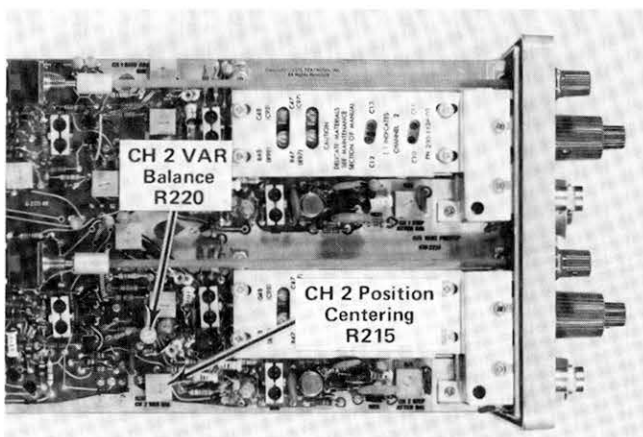

Fig. 5-13. Location of CH 2 Variable Balance and Position Centering adjustments.
c. ADJUST—CH 2 Variable Balance adjustment, R220, (see Fig. 5-13) for minimum trace shift when rotating the CH 2 VAR control through its range.
e. ADJUST—CH 2 Position Centering adjustment, R215, (see Fig. 5-13) so that the top of the CRT display can be positioned down to 1/2-division above the center horizontal graticule line, and the bottom of the display can be positioned up to 1/2-division below the center horizontal graticule line.